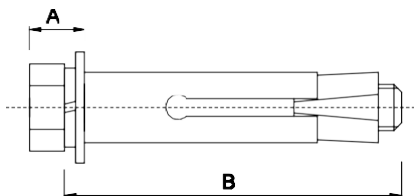

Figure 1.
1. Installation requires M5 or M6 expansion bolts with the required dimensions as shown in Figure 1 (this bolt needs to be purchased by the customer);